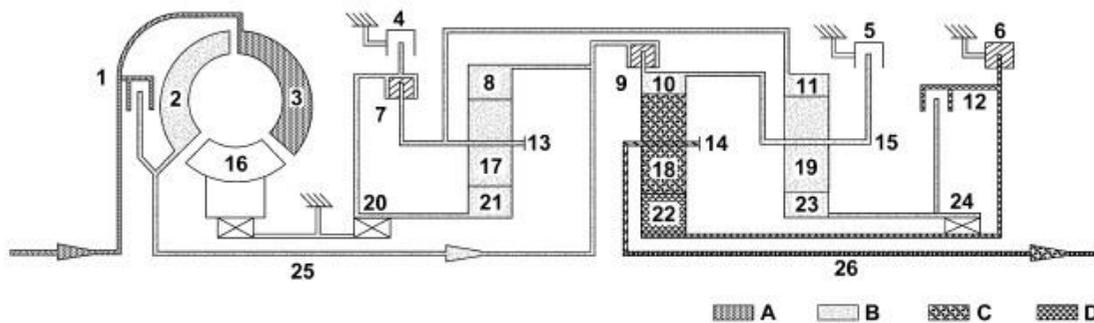
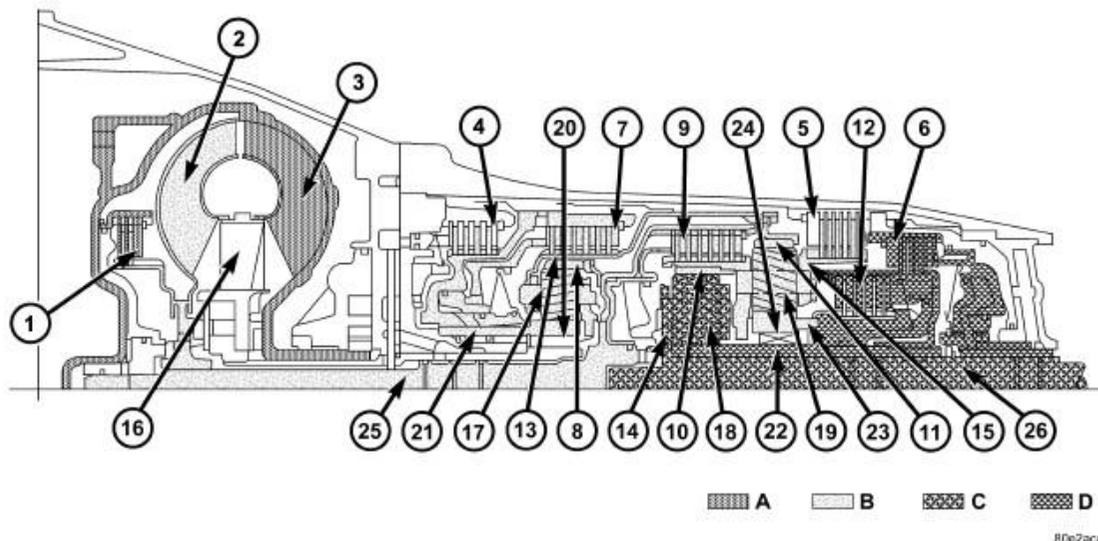

Fig. 6: Third Gear Powerflow (1 Of 2)
Fig. 7: Third Gear Powerflow (2 Of 2)
Torque from the torque converter is increased via the input shaft (25) and the center planetary gearset and transferred to the output shaft (26). Refer to **Fig. 7** and **Fig. 6**.